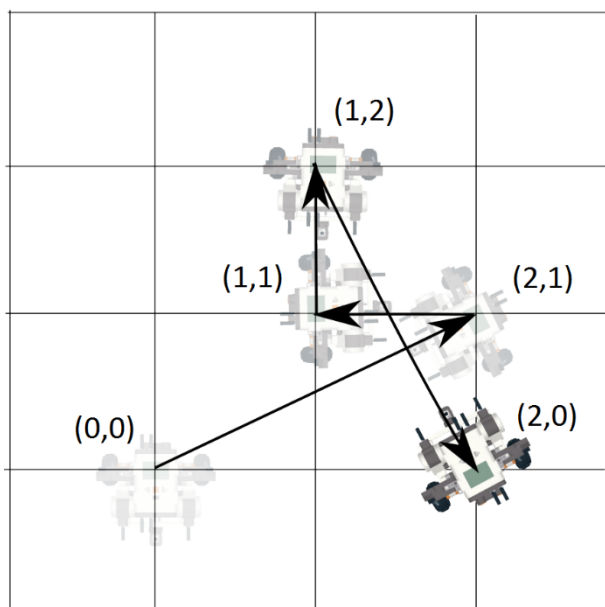

Figure 2. Example robot path 1.
2. Write a program to travel through a set of waypoints. For example, **Figure 2** shown below follows (2,1), (1,1), (1,2), and (2,0) in order.
1. Program the robot to travel to waypoints (2,1), (1,1), (1,2), and (2,0) as in **Figure 2**.